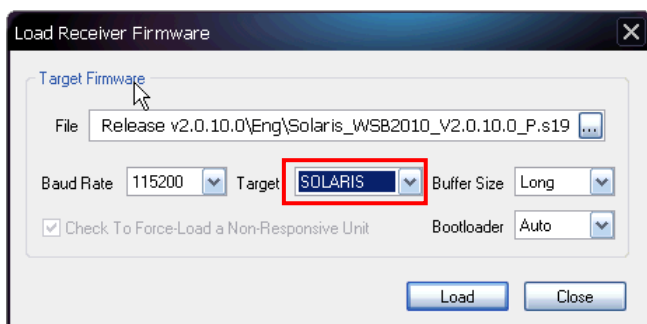

Figure 23: Settings for GNSS Firmware
- Select SOLARIS to upload GNSS firmware (see Figure 23):